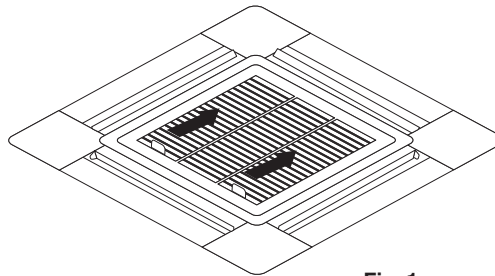
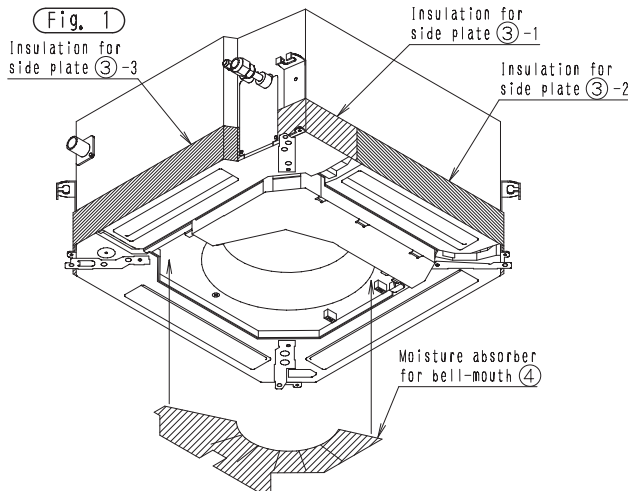

Fig. 1
Fig. 3
(1) Remove the suction grille from the decoration panel.
- 1 Open the suction grille by sliding the 2 suction grille tabs in the direction of the arrow. (Refer to Fig. 1)
- (1) Adhere the insulations for side plate ③ in position, referring (Fig.1) (Fig.2).
- (2) Adhere the moisture absorber for bell-mouth ④ on the inner surface of the bell-mouth. See (Fig.1) (Fig.2) (Fig.3).